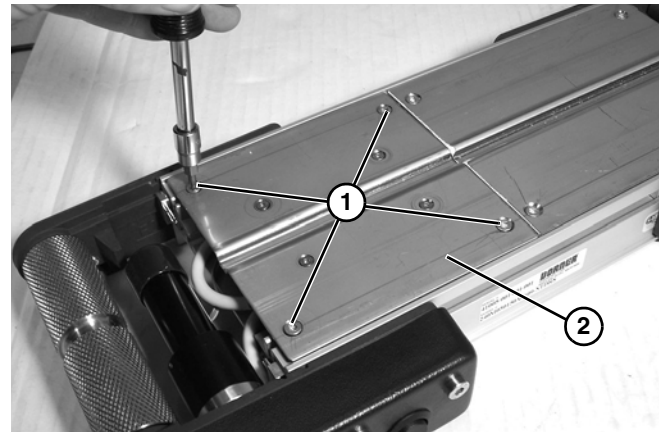

**Figure 48**
4. Slide nose bar rods (**Figure 48, item 1**) out side of conveyor and replace rollers (**Figure 48, item 2**) as necessary.